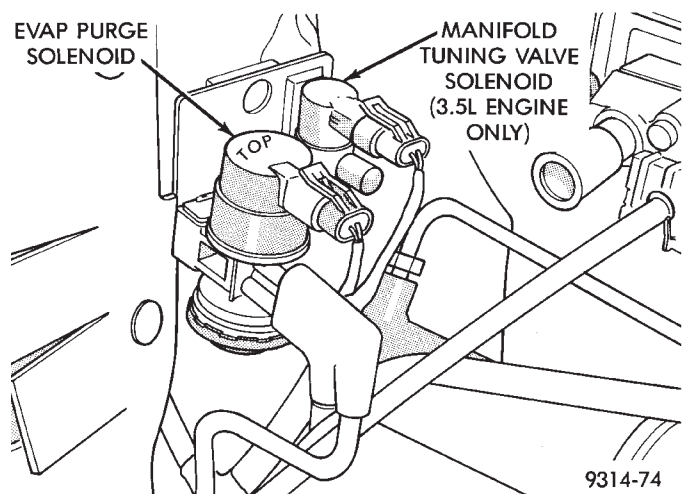

Fig. 55 MTV Solenoid—3.5L Only
The manifold tuning valve (MTV) solenoid is mounted to the inner fender panel, next to the EVAP purge solenoid near the passengers side of the dash panel (Fig. 55).
- (1) Remove air cleaner tube.
- (2) Remove electrical connectors from EVAP purge solenoid and manifold tuning valve solenoid (Fig. 55).
- (3) Disconnect vacuum harnesses from solenoids.
- (4) Remove solenoid mounting bracket screw.
- (5) Remove solenoids and bracket.
- (6) Lift MTV solenoid up off of bracket.
- (7) Reverse procedure for installation.